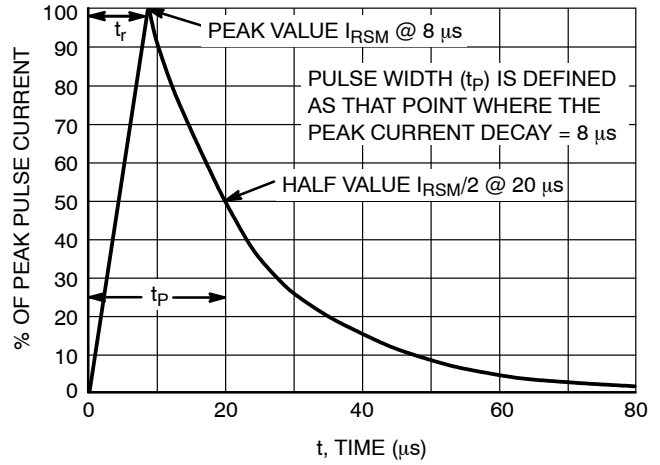

Figure 2. 8 $\times$ 20 μs Pulse Waveform
1. Non-repetitive current pulse per Figure 2
5. Surge current waveform per Figure 2